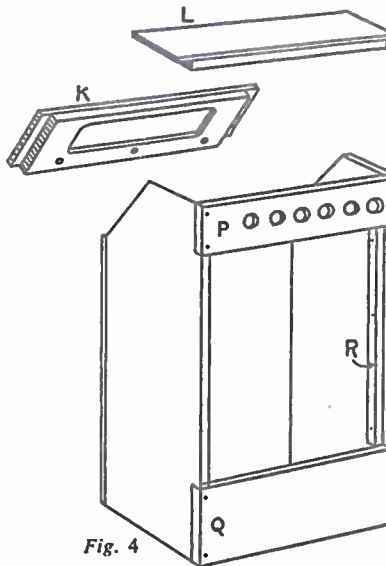

Fig. 4
After this, fix the back parts (P) and (Q). Figs. 4, 5 clarify the assembly.
Next, prepare the dial panel. This is made from two pieces of $\frac{1}{2}$ in. plywood glued together, as seen in (K, Fig. 4). The bottom edge must be chamfered to
The top of the cabinet is also made from two pieces of plywood glued together (L, Fig. 4). The lower interior piece can be thicker here, say, $\frac{1}{2}$ in. or $\frac{3}{4}$ in., as, no doubt, it will have to support the weight of the flower vase which it invites.